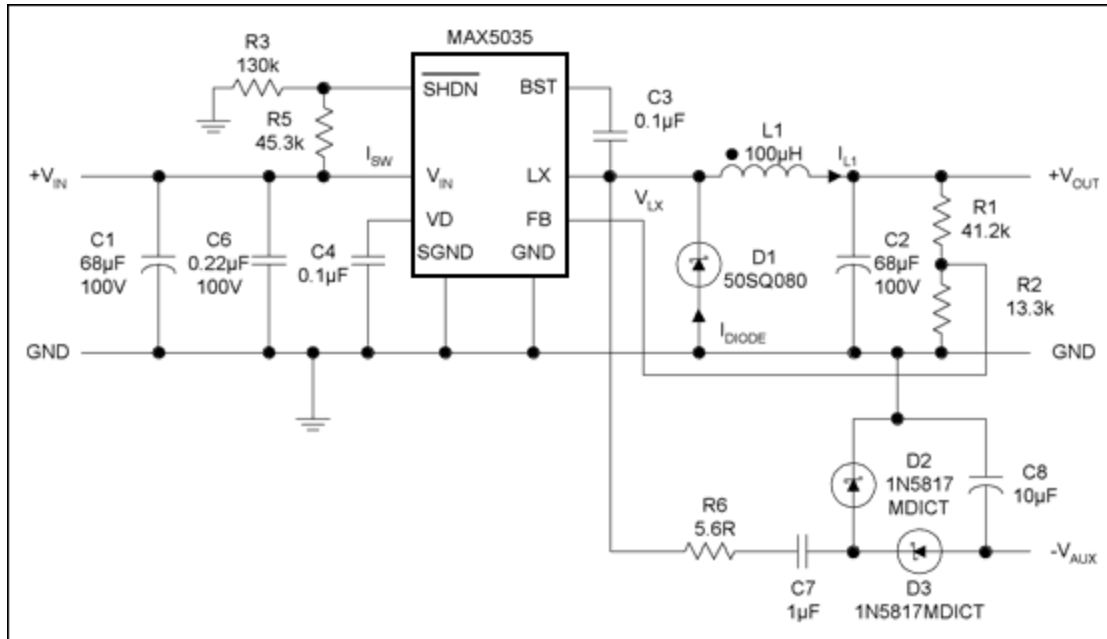

Figure 5. Schematic for an auxiliary negative output derived from a charge pump.
The LX terminal voltage excursion can be used as a source for a charge pump to generate an unregulated auxiliary negative output. The additional output is unregulated because the voltage at LX is not isolated from changes of V_{IN} . The additional charge-pump components are shown in **Figure 5**. See also waveforms in **Example 3**.
3. Negative auxiliary output only; the output can be referenced to ground or the main regulated output, provided that enough voltage difference is available to charge the pump capacitor (C7 in Figure 5).
Example 3 Waveforms: Charge Pump Negative Auxiliary Output (Figure 5).